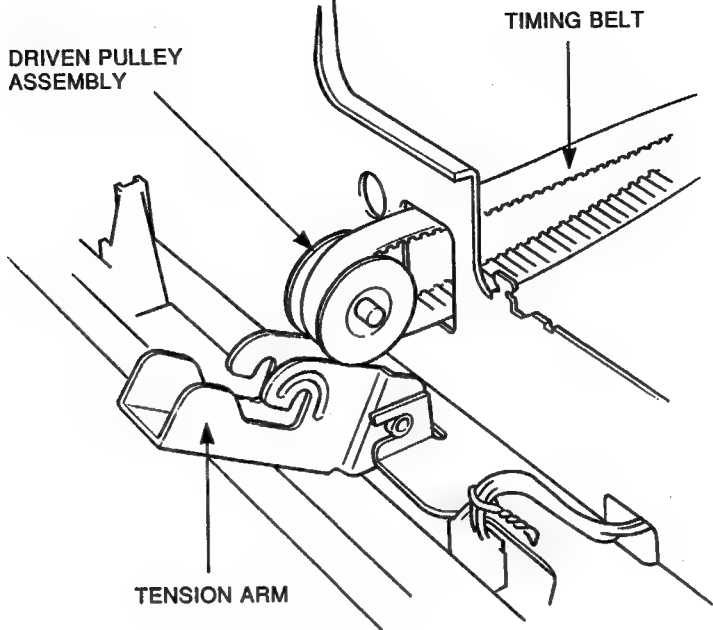

Figure 3-21 Driven Pulley Assembly
6. Remove the driven pulley assembly from the tension arm (see Figure 3-21).
7. Remove the timing belt from the driven pulley assembly (see Figure 3-21).